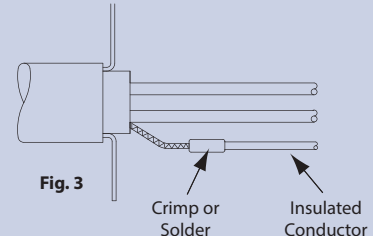

Fig. 3
- 2.5 Crimp an insulated conductor to the pigtail with a suitable insulated butt ferrule (or soldered connection), leaving enough length of the insulated conductor to enable the remote end to be connected to the earth terminal in the equipment. (See Fig. 3). Note: There shall be a minimum of 10mm of compound on both ends of the crimped / soldered joint.